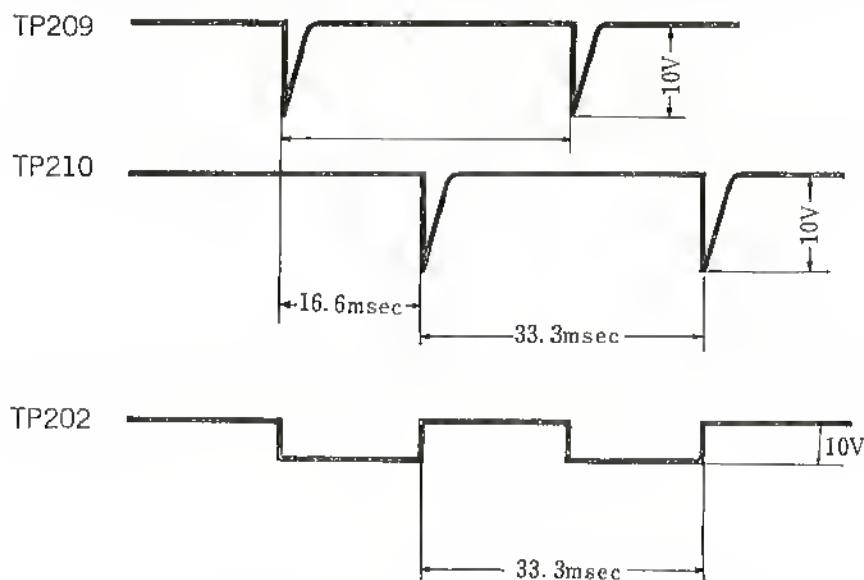

Fig. 46 Wave form relationship at Control Circuits.
- C. After the above adjustments are completed, connect a Double-Beam Oscilloscope to TP210 and confirm that the wave forms on the screen must have the phase relationship as shown in Fig. 46 (having phase difference of 16.6 msec. each other), and further when comparing the wave forms between either one of TP209 or TP210 and the TP202, the timing of the delay must coincide as shown in Fig. 46. Also confirm that this relationship must not be affected even when the R271 (playback phase control) is rotated. Otherwise, repeat the above adjustments.